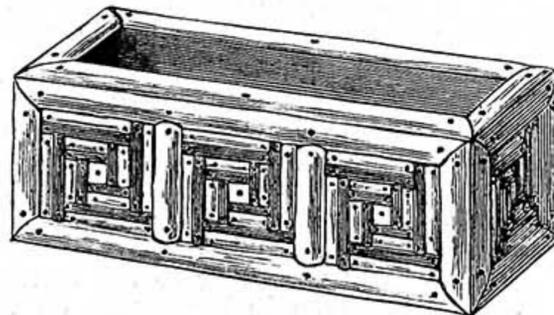
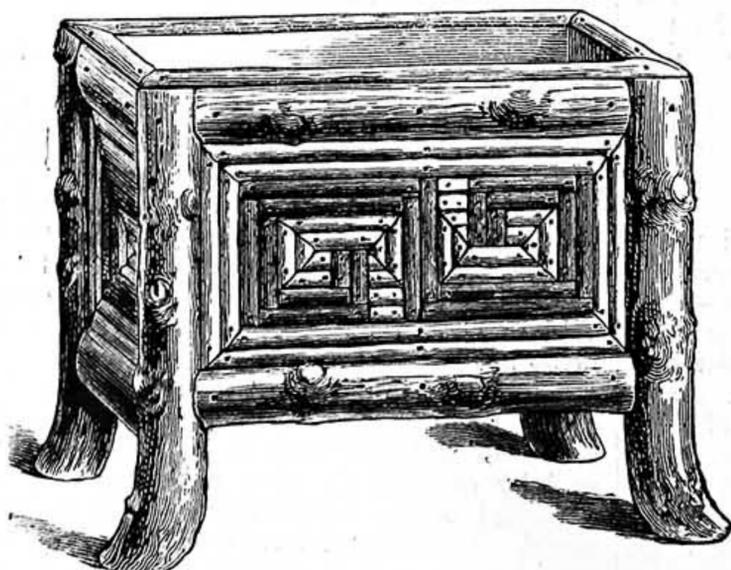
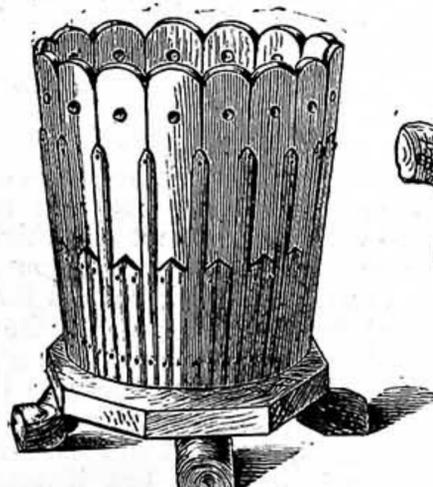

Fig. 4.—Window Box made from Raisin Box.
Fig. 3.—Large Garden Plant Stand made from a Soap Box or any other Strong Box.
Fig. 5.—Ornamental Plant Vase made of an American Lard Pail.
*A Lard Pail.*—Fig. 5 is intended for a somewhat low-growing flowering plant—say, a large bushy geranium. In its original character this was nothing more dignified than an American lard pail, value 9d. to 1s. As in the last tub, the staves have been sawn to a more ornamental outline; they have also been perforated.
*A Raisin Box.*—Nor are some of the boxes which we can get from the grocer badly suited to our purposes. Such boxes are not costly, and to buy and knock these up for rough uses is often more economical than buying new material. A box, being straight-sided, is more easily ornamented with rustic work than the curved sides of a tub, but we must take care that the boards are stout enough to hold the brads firmly. Fig. 4 is a raisin box. That before us is about 21 in. by 7 in. by 7 in.—dimensions which lend themselves well to decoration. Two or three of these ranged side by side are not bad for the window-ledge. This box will be seen to be wholly covered with mosaic of dark and light strips in panels. Strips are also nailed on the upper edges.
*A Soap Box.*—In Fig. 3 we have a larger box, probably, a soap box. This, besides being completely covered with rustic work, has been mounted on legs. The easiest way to fix one of these legs on is to saw the piece of stuff in half to a distance from top equal to the depth of the box, and then to cross-cut and remove one half. The corner of the box will be brought to the middle of the cross-cut, and the leg nailed on to the side of the box. The piece which has been sawn off will then be cut through (quartered), and the proper quarter replaced and nailed to the end of the box. Frets, such as those shown in these two examples, are patterns of a kind well adapted to be worked out in rustic mosaic.
round-headed brass screw through the side of each outer limb, at a distance of 4 in. from the top of the rack, as will be understood by reference to Fig. 5, which represents the rack when closed. Upon opening the rack, it will be found that the strip of wood placed across the lower portion of the outer limb forms a stay which prevents it from being opened too wide, and likewise renders it rigid when in use. When the rack has been fitted together in the manner above described, the upper portion of each limb must be furnished with the grooves to hold the plates. Suitable grooving wood can be purchased from most photographic dealers at 10d. per foot for 11 in. wide. Should any difficulty be experienced in obtaining the grooving, it will be found an easy matter for the reader to cut sufficient for this rack. In short, the reader is strongly advised to adopt this course, as the grooving supplied by the dealers being specially intended for plate boxes, is therefore scarcely suitable for our purpose, owing to the grooves being formed thus: U, instead of the V shape recom-
Fig. 1.—Folding Plate Draining Rack complete. Fig. 2.—Leg of Rack rebated. Fig. 3.—Mode of cutting Rebate. Fig. 4.—Grooved Strip at top of Side. Fig. 5.—Rack when folded. Fig. 6.—Mode of grooving Strips.
make a saw cut, ¼ in. deep, at the above distance from the end, as shown at A to B, Fig. 3, and another from C to B, which will thus remove the requisite amount of wood. These pieces, which are intended to form the legs, may then be placed aside while a couple of cross bars are being prepared to fit across the rebated portions of the legs for the purpose of uniting them. These may be cut from a strip of ¼ in. board 1½ in. wide, one of them being 9 in. and the other 10 in. in length. When ready, take two of the legs first prepared, and glue one of them at each end of the 10 in. strip, using a couple of ½ in. brass screws to each leg, and after these have been fixed in position, glue and screw a thin strip of wood, ½ in. wide, across from side to side, in the position shown in Fig. 4, placing this stay at 4⅜ in. from the upper end of the limb. The other cross piece and the two remaining legs are then screwed together in a similar manner, except that this limb will not require a stay to be placed across, as in the case of the other. The two limbs are now placed together in the position they are intended to occupy when the rack is closed; after which they are hinged in the middle by driving a ¾ in.
Now, a short distance to the right of scale, and following instructions given in describing Fig. 3 (p. 70), design the outlines of a V-thread  $\frac{1}{8}$ th of an inch pitch, commencing with the exterior angle (c) of the thread on the line A B. Of course the points d, f, etc., can be projected by the T-square from the scale. Having done this, from the line a a, passing through the extreme rounded portion of the thread, set off  $\frac{1}{2}$  in. to the right. This will be the diameter of the bolt. Construct here the outlines of the V-thread similar to the one on the left; but care must be taken that the exterior angles do not come opposite those on the left side, but midway between them. This can be easily done by projecting lines across from the  $\frac{1}{2}$ ,  $1\frac{1}{2}$ ,  $2\frac{1}{2}$ , etc., divisions of the scale on to the line a2 a2—these will give the vertical position of the angle points of the threads. The reason is, that in single-threaded screws, in winding once round the body, the V rises from c to e, therefore, when it gets half-way round (that is, to d), it will have risen half the distance c e—that is, one-half the pitch.